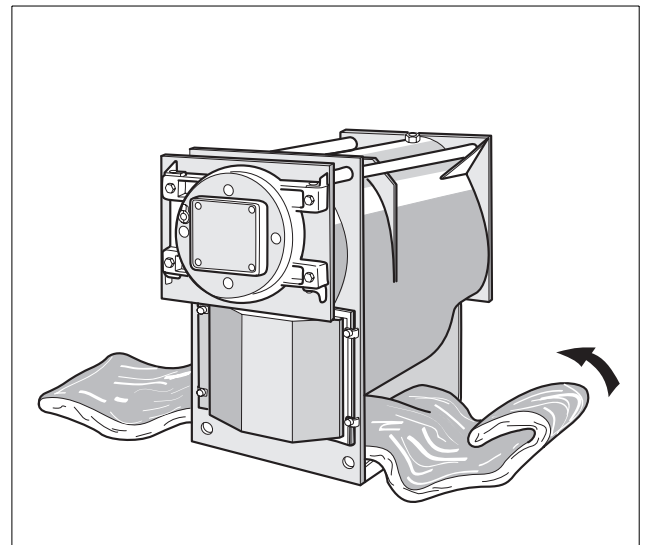

Fig. 4 Slide the insulation blanket underneath the boiler
When fitting the thermal insulation, ensure that the textile web backing is arranged on the outside and the cut-outs towards the rear (Fig. 4).
- Slide the insulation blanket underneath the boiler (Fig. 4).